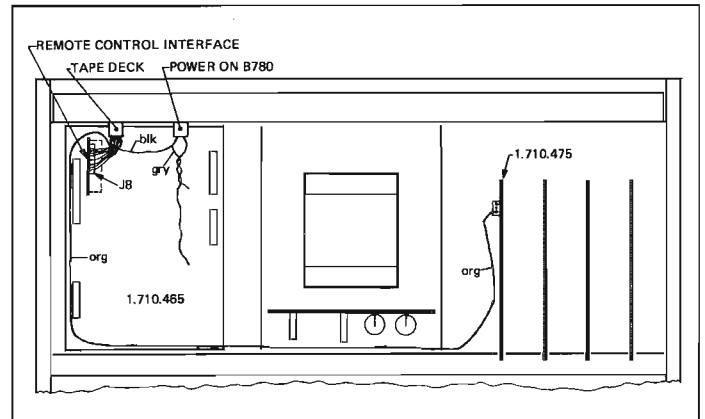

Fig.3.7
- Plug the REMOTE CONTROL INTERFACE PCB into the multipoint connector J8 (1.710.465) (Fig. 3.7).
- Run the orange cable along the existing cable harness to the AUDIO LOGIC CONTROL PCB 1.710.475 and plug it into the newly assembled multipoint connector (Fig. 3.7).